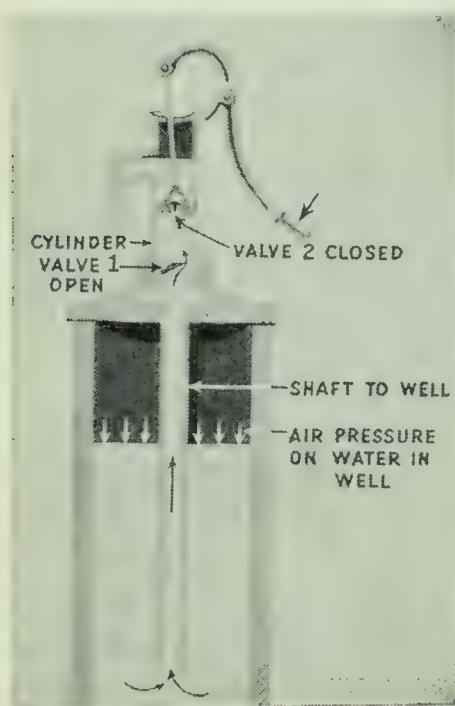

FIG. 238
HOW IS GROUND WATER BROUGHT TO THE SURFACE? Since the water in the ground is below the surface, it must, except in artesian wells, be brought up before it can be used. Pumps are usually used for this purpose. There are several kinds of pumps. The most common of these are called *lift pumps*. Figure 238 shows the principal parts of a lift pump. The *piston*, fitted with a leather washer to make it water-tight in the *cylinder*, is moved up and down by the *piston rod* when the pump handle is forced
down and up. A valve (Valve 1 in Figure 238) is placed just below the pump cylinder, at the top of the *shaft*, or pipe, that goes down into the water in the well. There is also a valve (Valve 2) in the piston. Experiment 56 will help you understand the construction and operation of the lift pump.
*Self-Testing Exercises.* 1. Figure 238 shows the piston on the upstroke. Make a drawing of this figure to show the positions of the valves and the movement of the water on the downstroke.